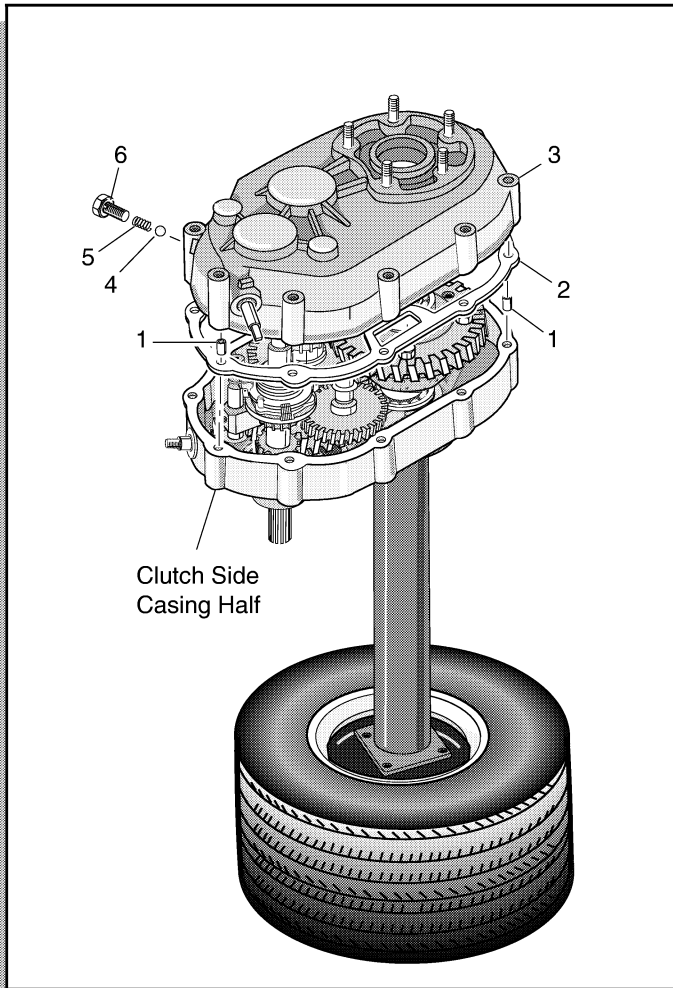

Fig. C-21 Transaxle Case Assembly and Shifter Detent
1. Install two transaxle case alignment dowels (1) (Ref Fig. C-21 on page C-9).
1. Install a new transaxle casing gasket (2) on the left (clutch) side transaxle casing half, using the alignment dowels for positioning (Ref Fig. C-21 on page C-9).
1. Make sure the casing half, and especially the gasket surface, is clean (Ref Fig. C-21 on page C-9).
1. Install the ball (4) and then the spring (5) as shown (Ref Fig. C-21 on page C-9).
2. Install the bolt (6) using a 14mm socket and tighten to specified torque.